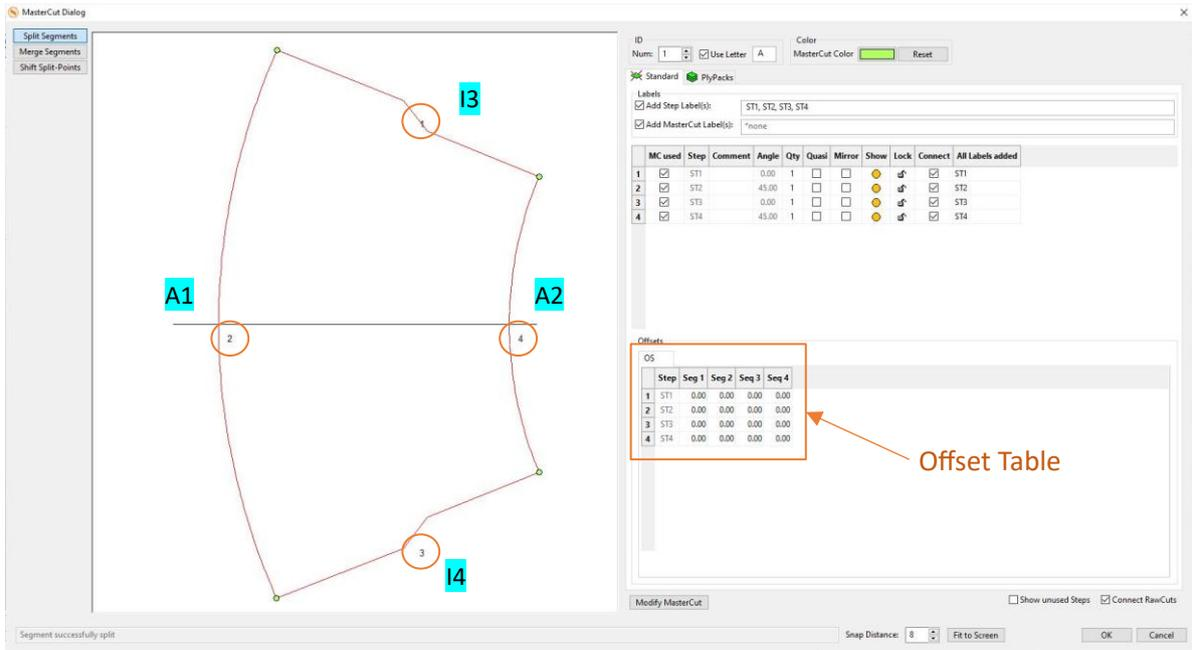

Figure 111
- Considering the offset table already used previously, expanded by the segment numbers in the second line, we can now transfer the offset values from Table 6 into the offset table of the MasterCut Dialog (Figure 111).